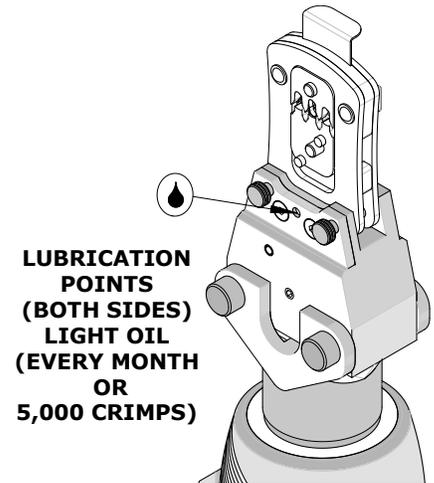

Figure 8.2
4. Make certain all pins, pivot points and bearing surfaces in the tool head are protected with a thin coat of high-quality machine oil. Do not oil excessively. Using a light oil such as SAE 30 weight automotive oil every 5,000 crimps or monthly will significantly enhance the tool life and ensure a stable calibration. See Figure 8.2 for lubrication points.